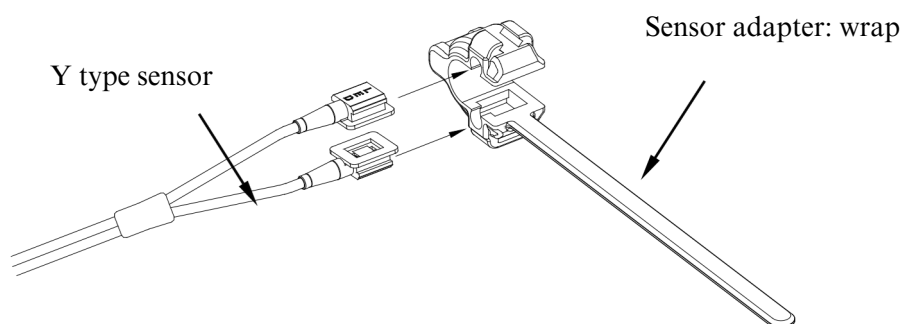

Figure 3.10 Neonate SpO2 sensor placement
3. If the neonate SpO2 sensor is used, please follow Figure 3.10 to connect.